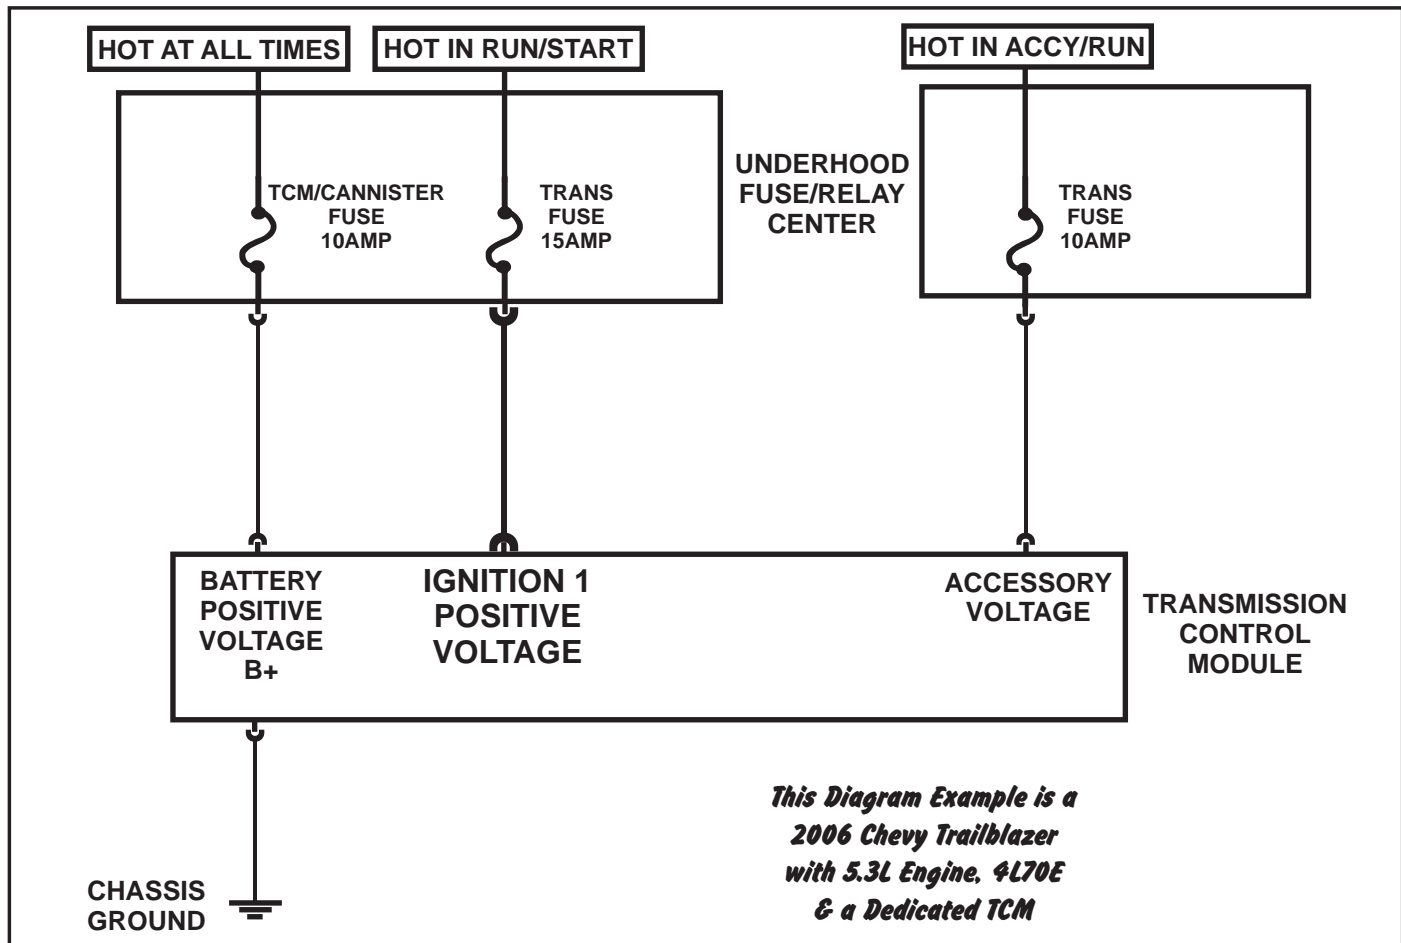

Figure 146
- The Ignition 1 feed supply circuit to the computer is a fuse protected circuit, (Refer to Figure 146), always check fuses when there is no power on the circuit being checked. (Remember, high resistance can cause a lesser amount of voltage than is required on a circuit, therefore circuit test lamps, unless specifically designed for the task, should not be used.
- Check the Ignition 1 circuit wire between the TCM and underhood fuse box for an open or short to ground, (Refer to Figure 146).